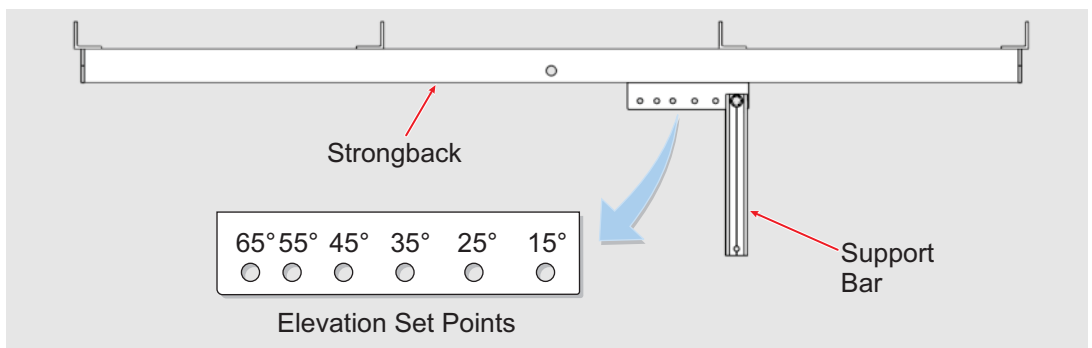

Figure 6-2: Positioning Support Bar
- B. Tilt the rack to the desired elevation angle (15°, 25°, 35°, 45°, 55° or 65°) and re-attach the Support Bar to the Strongback, placing the 3/8" hardware in the appropriate hole matching the desired elevation. **Torque to 32-34 ft.-lbs.** (See Figure 6-2)